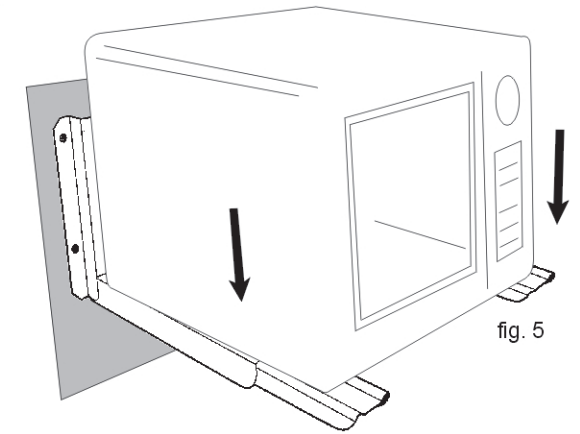

fig. 5
4. Carefully place the Microwave onto the unit. **See fig. 5.**